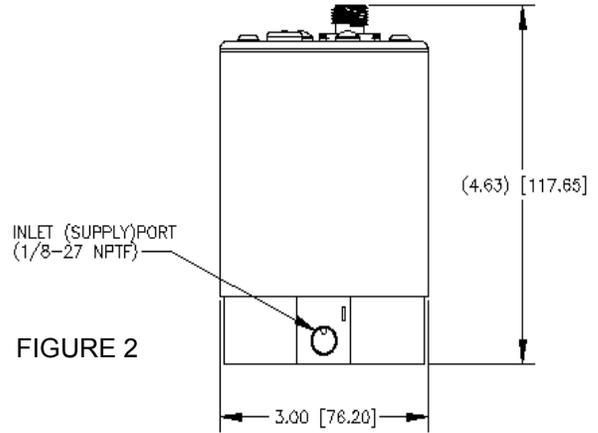
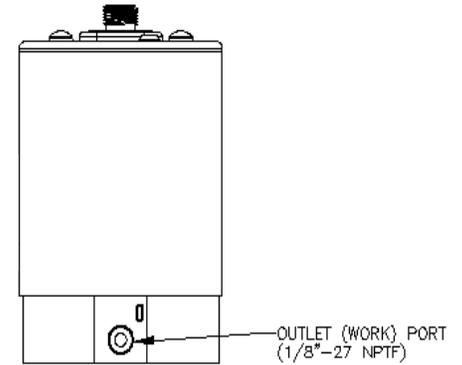

FIGURE 2
FIGURE 3
3. Connect one of the "O" outlet port (figure 2 & 3) to the device being controlled and plug the unused one.
2. Figure 2 shows the location of the GP electrical connector and figure 3 shows the connector. Table 2 identifies the color codes